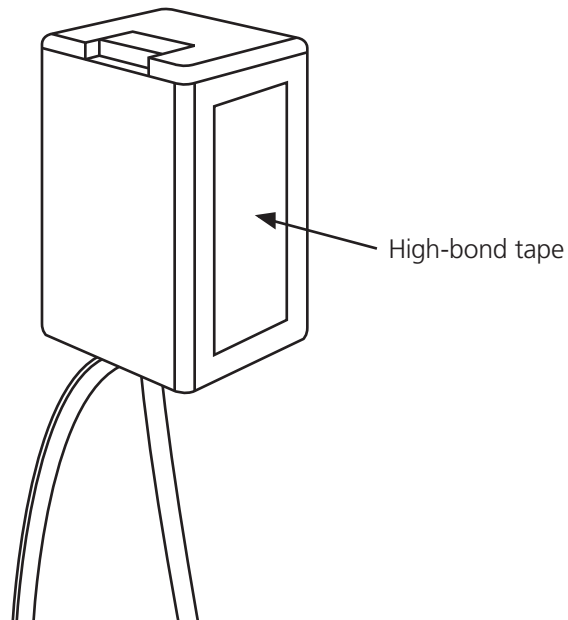

Figure 3. Remove the protective cover from the high-bond tape.
- Install the Door Interface Box as shown in Figures 3 through 8.
- Remove the protective cover from the double-sided high bond tape located along the edge of the Door Interface Box (see Figure 3).